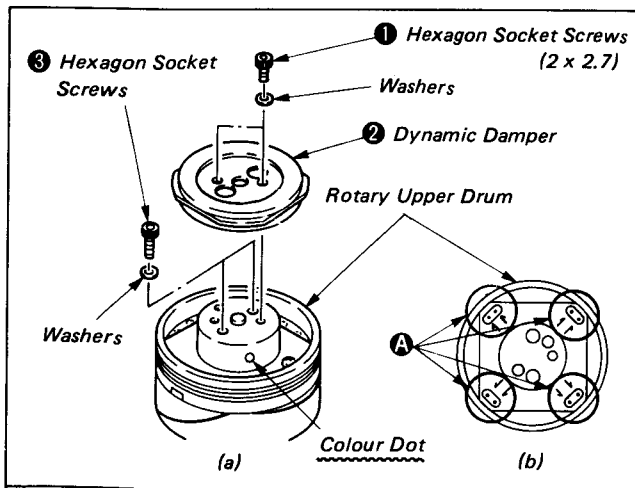

Fig. 1-49
- The rotary upper drum is marked with a colour dot as shown in Fig. 1-49.
- 1) Remove two hexagon socket screws (2 x 2.7) ① and dismount the dynamic damper ②. (See Fig. 1-49.)
- 2) Suction solder at all of the soldered eight positions A. Check that the printed wiring board and pins jutting out from below freely move using tweezers, or other tool. (See Fig. 1-49.)
- 3) Remove the two hexagon socket screw (2 x 5) ③. (See Fig. 1-49.)
- 3) Remove Jig C, lightly push the rotary upper drum by hands. If the rotary upper drum does not go in to the bottom, alternately tighten the two hexagon socket screws (2 x 5) ③ by hand and temporarily fix them. (See Fig. 1-49 and 1-52.)
- 4) Reinsert the Jig C in the positioning hole and check that the jig can be inserted smoothly. (When the jig cannot be inserted, loosen the two hexagon socket screws (2 x 5) ③ and slide it inserting a clock screwdriver in the hole.)
- 5) Tighten the two hexagon socket screws (2 x 5) ③.
- 6) Solder the eight positions A. (See Fig. 1-49.)
- 7) Tighten the two hexagon socket screws (2 x 2.7) ① reversing the screw removal procedure and remount the dynamic damper ②. (See Fig. 1-49.)